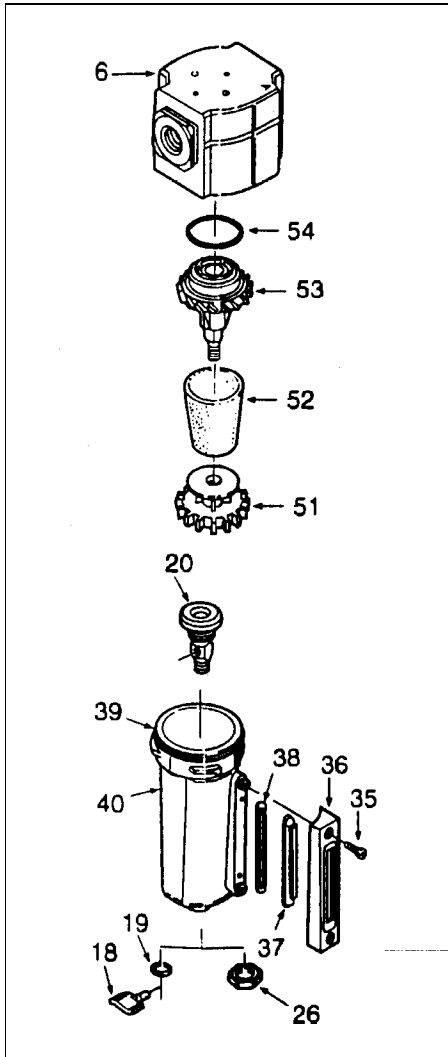

FIG. 4: ACCESSORY AIR FILTER ASSEMBLY 12088
Disassemble filter in general accordance with the item numbers on the exploded view (Fig. 4).
1. Clean (37, Fig. 4) with warm water only. Clean other parts with warm water and soap solution. Rinse thoroughly with clean water.
2. Blow dry with compressed air making sure the air stream is moisture free and clean. Blow air through filter element (52, Fig. 4) from inside to outside to dislodge surface contaminants. Replace filter element when plugged. Pay particular attention to the internal passages.
1. Lubricate o-rings with a light coat of o-ring grease, then assemble the filter as shown on the exploded view (Fig. 4).
2. Screw baffle (51, Fig. 4) onto centerpost (53, Fig. 4) until contact is made with element (52, Fig. 4), then tighten and additional ¼ turn. Turn bowl (40, Fig. 4) fully clockwise into body.
Torque Table (Fig. 4)